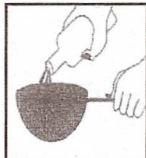

Fig. 8
3. Refill the oil reservoir with the oil by pouring the oil through a wire strainer or paper filter. (Fig. 8)